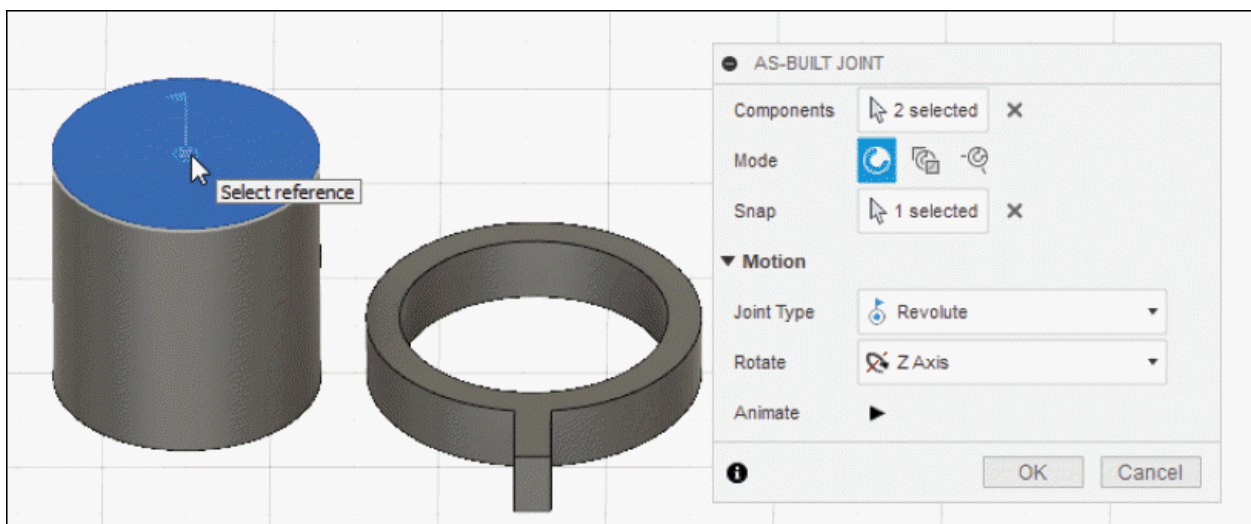

Figure-23. Selecting reference for motion
- Select desired references on the components based on the option selected in **Joint Type** drop-down; refer to Figure-23.